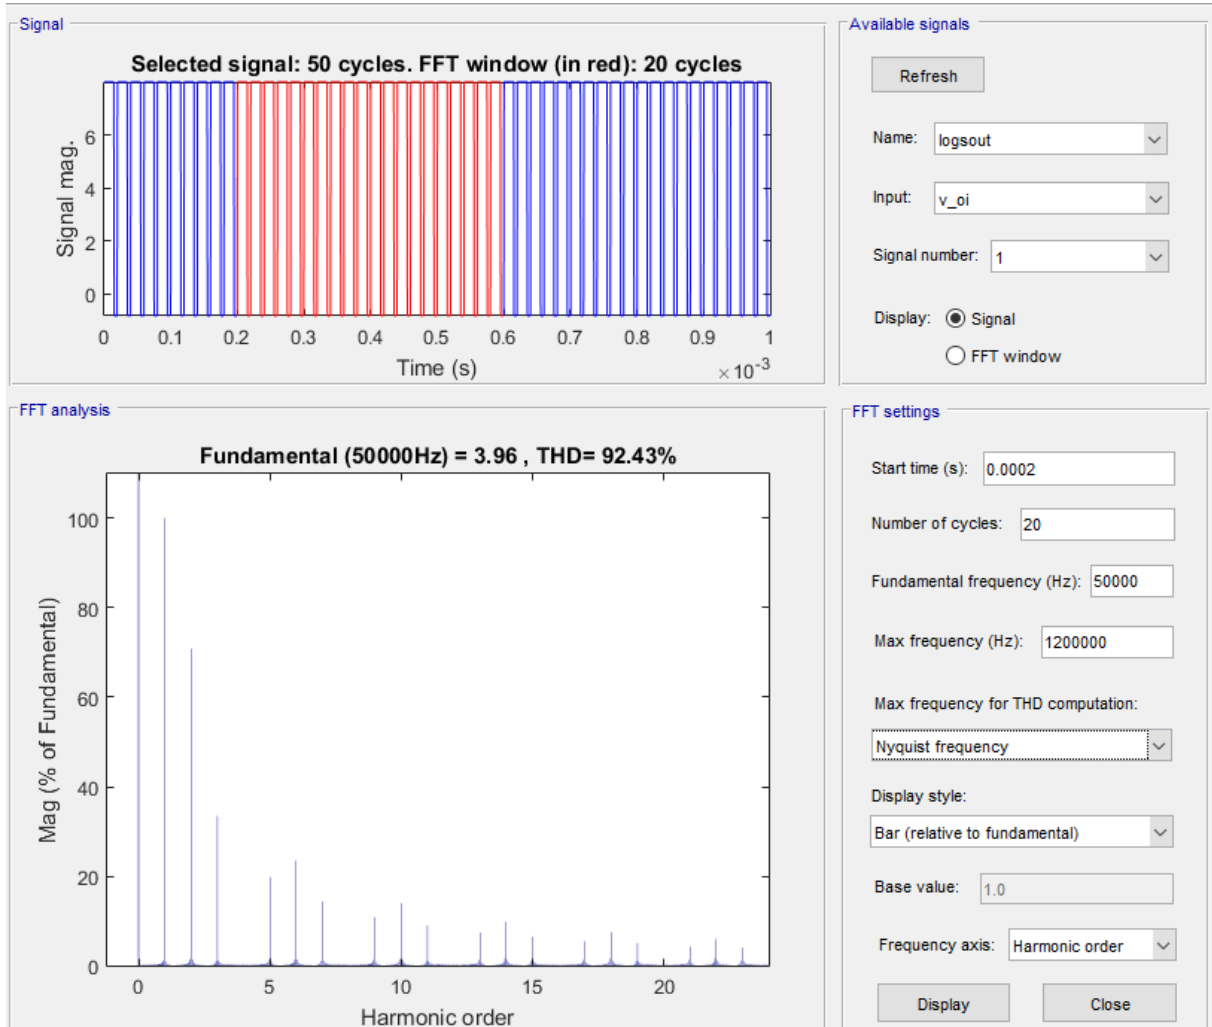

Figure 4: FFT Analysis Results
**Q2)** FFT analysis is performed using powergui toolbox of Simulink. Harmonic components are shown with respect to their orders, on the graph given in Figure 4, below.